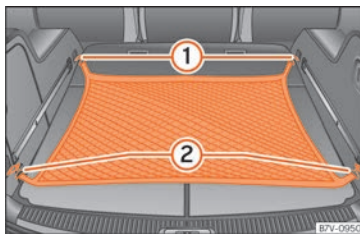

**Fig. 149** In the luggage compartment: net for hanging luggage.
- Hook the baggage net into the fastening rings »» **Fig. 149** ① and ②.
- Carefully unhook the baggage net hooks from the fastening rings »» **Fig. 149** ①.
- Carefully unhook the baggage net hooks from the fastening rings »» **Fig. 149** ②.